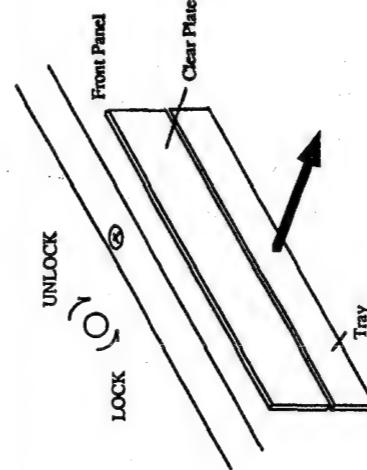

fig.1
- Turn the locked screw to the clockwise to release the lock of gear.(Refer fig.1)